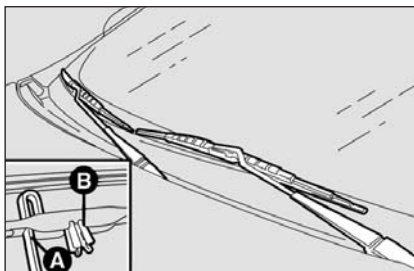

fig. 22
- ☐ raise the windscreen wiper arm **A-fig. 22** and position the blade so that it forms an angle of 90° with the arm;